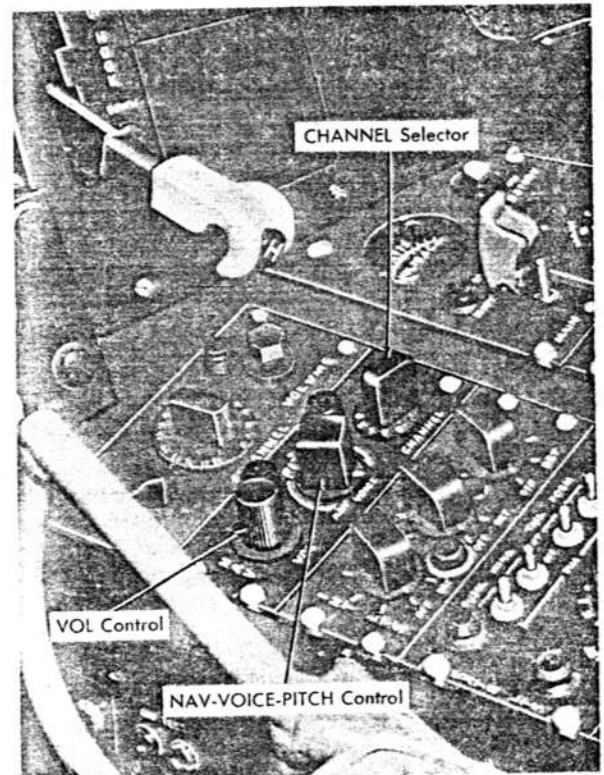

Figure 4-7. AN/ARR-2A Controls
**NAV-VOICE-PITCH CONTROL.** The NAV-VOICE-PITCH control (figure 4-7) is the main control for the equipment. When the control is in "NAV," the beat note oscillator functions and a navigation signal is heard. The "PITCH" range is for varying the pitch or tone of the observed navigation signal. The "VOICE" position is not used for navigating. If "VOICE" is to be used, instructions will ordinarily be given prior to take-off.
**CHANNEL SELECTOR.** The CHANNEL selector (figure 4-7) is used for selecting any one of the six channels.
**VOLUME CONTROL.** The VOL control (figure 4-7) limits the audio output to a comfortable level.